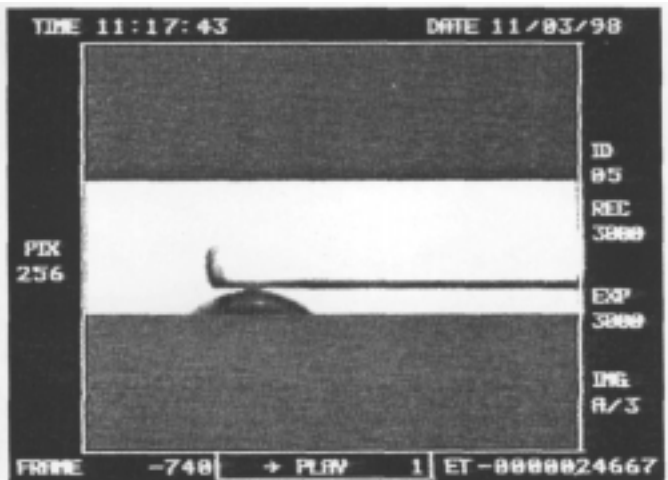

Fig. 3: The most surprising result: On just one miscue, the tip, the ferrule and even the shaft can all contact the cue ball.
**Figure 3** is the surprising result. In many but not all miscues, the ferrule — or in extreme cases, the shaft — slaps the cue ball several times during the motion.